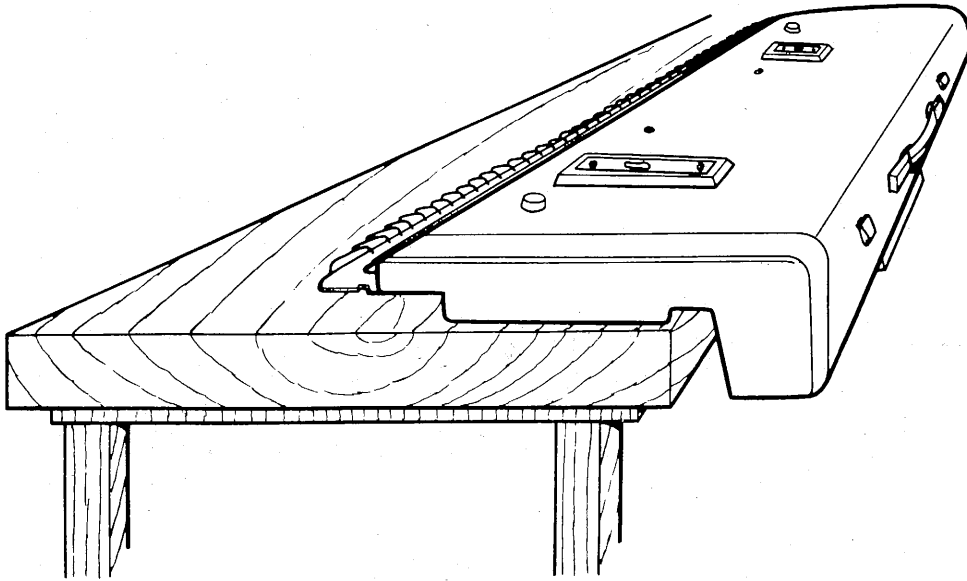
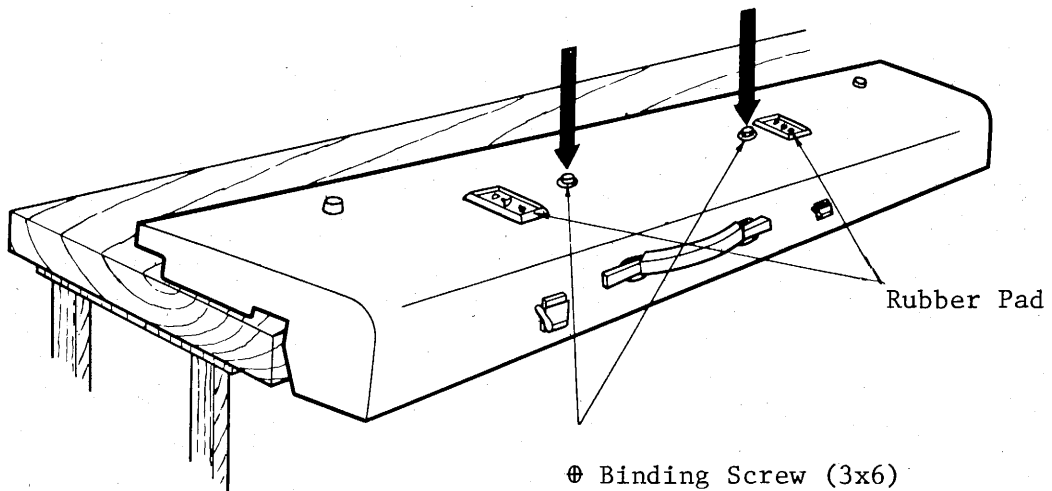

Fig. 51-1
Fig. 51-2
- (1) Turning over body as shown in Fig. 51-1, remove two $\oplus$ binding screws (3x6) located between two Rubber Pads as shown in Fig. 51-2